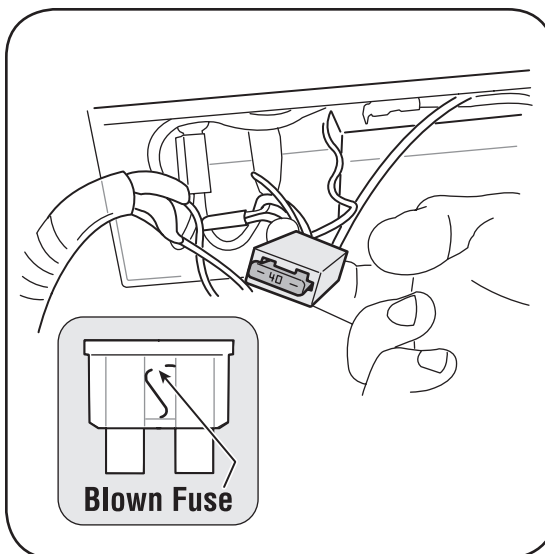

Figure 5-16: When replacing fuse, use a standard automotive 40 Amp fuse.
2. Remove fuse from socket and inspect as shown in Figure 5-16. If it is burned out, replace with standard automotive 40 ampere fuse.